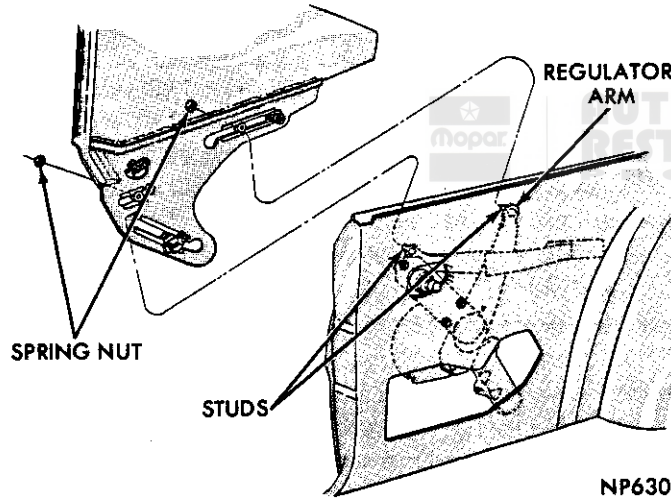

Fig. 43—Quarter Glass Replacement—Hardtop
(1) With glass in mid-position, remove spring nuts from regulator arm studs (Fig. 43) and studs from rollers.